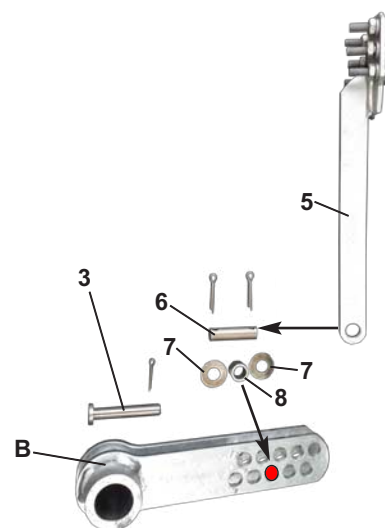

Fig. 7: Mounting the head of clamping crank
- Connect the head of clamping crank (5) with the operating crank (B), attachment point 142 mm. Therefore mount the bolt (6) with the sleeve (7) and the both washers (8) and secure with the two splints (Ø 4 x 25 mm) (see Fig.: 7).